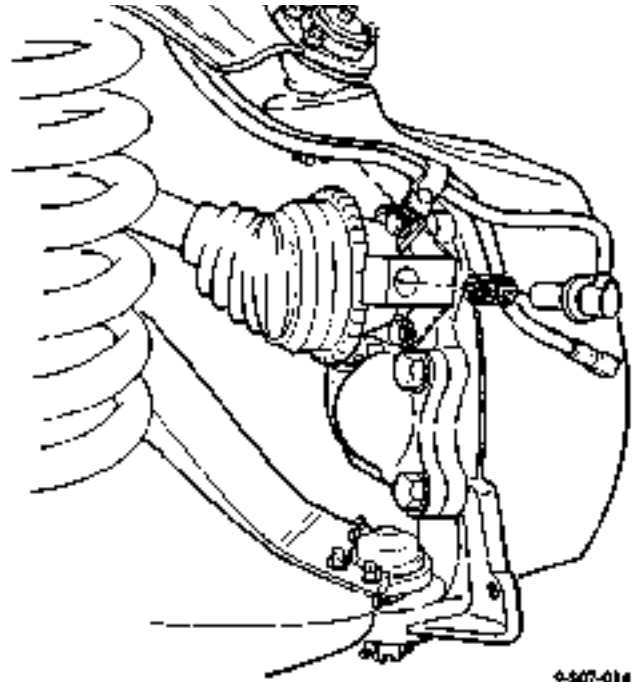

Figure 7-56: Speed Sensor Removal
1. Rotate and pull the speed sensor head from the speed sensor mounting bracket and retaining sleeve (Figure 7-56).